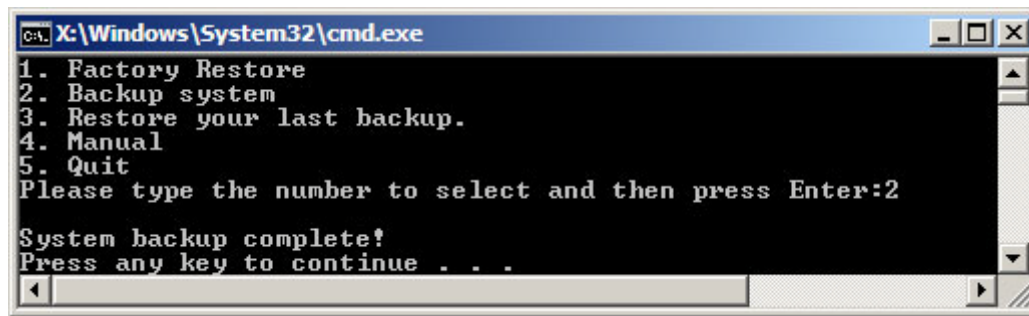

Figure B-37: System Backup Complete Window
Step 3: The screen shown in **Figure B-37** appears when system backup is complete. Press any key to reboot the system.